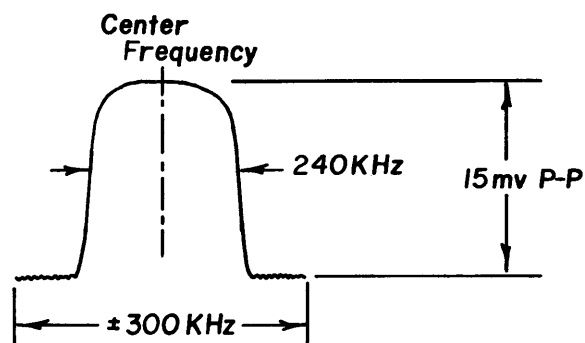

Figure 4.
3. Realign the front end 10.7 MHz output, along with T201, T202 and T203 (all top and bottom slugs) for maximum gain while maintaining bandwidth and symmetry, resulting in I.F. selectivity characteristics similar to Figure 4.